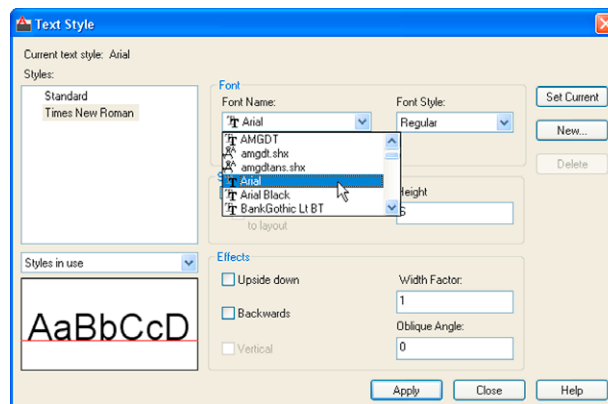

Fig. 4.8 The **Text Style** dialog
2. The **Text style** dialog appears (Fig. 4.8). In the dialog, *enter 6* in the **Height** field. Then *left-click* on **Arial** in the **Font name** popup list. **Arial** font letters appear in the **Preview** area of the dialog.